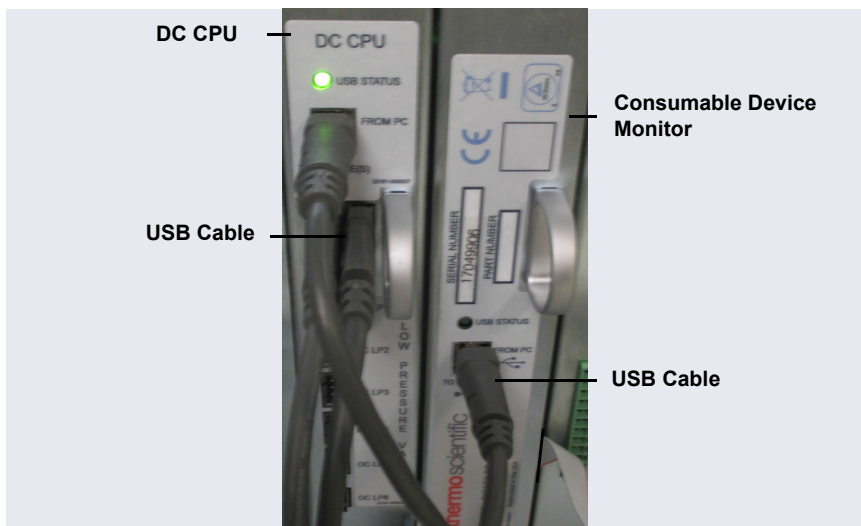

Figure 10-43. *Dionex Consumable Device Monitor Connected to CPU Board*
13. Locate the USB port on the Dionex Consumable Device Monitor and the two USB ports on the DC CPU board (see Figure 10-43).